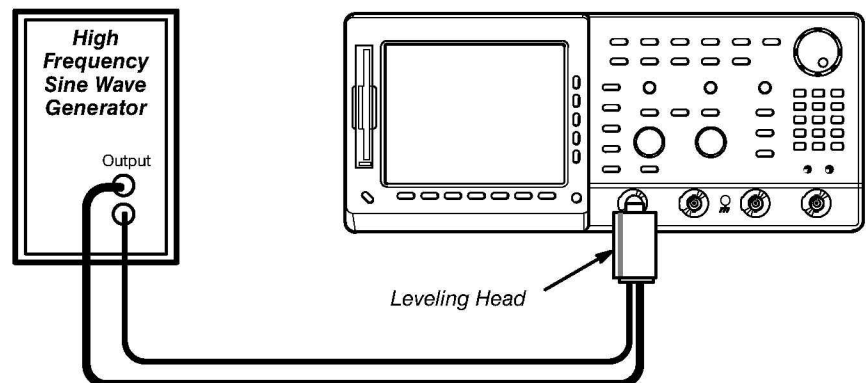

Figure 4-8: Initial Test Hookup
- c. *Hook up the test-signal source:* Connect, through its leveling head, the sine wave output of a high-frequency leveled sine wave generator to **CH 1**. Set the output of the generator to a reference frequency of 6 MHz. (When checking 1 mV use a medium-frequency leveled sine wave generator, Item 11, and set the output of the generator to a reference frequency of 50 kHz.) See Figure 4-8.